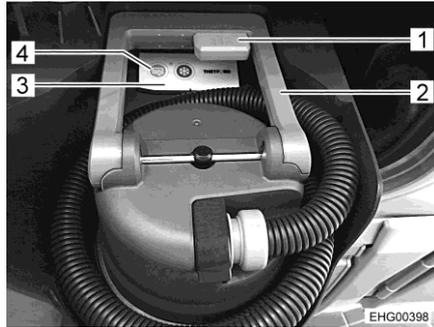

Fig. 150 Emptying module
The black water tank and grey water tank are emptied together via the emptying module (Fig. 150). The toilet, grey water tank, and black water tank are also flushed automatically at the same time.
- Pull the handle (Fig. 150,2) of the emptying module upwards.
- Press button (Fig. 150,1) on the handle (Fig. 150,2) to open the emptying module.
- Press the blue emptying button (Fig. 150,4) on the operating panel (Fig. 150,3). The emptying process begins.
- Wait until the waste water has been completely pumped out. The emptying process is complete when the blue emptying button (Fig. 150,4) is no longer illuminated.
- Press the button (Fig. 150,1) again to close the emptying module.
- Fold in the handle (Fig. 150,2).
- ▷ If the handle cannot be folded in, the emptying module may still be open. In this case, press the button (Fig. 150,1) again.